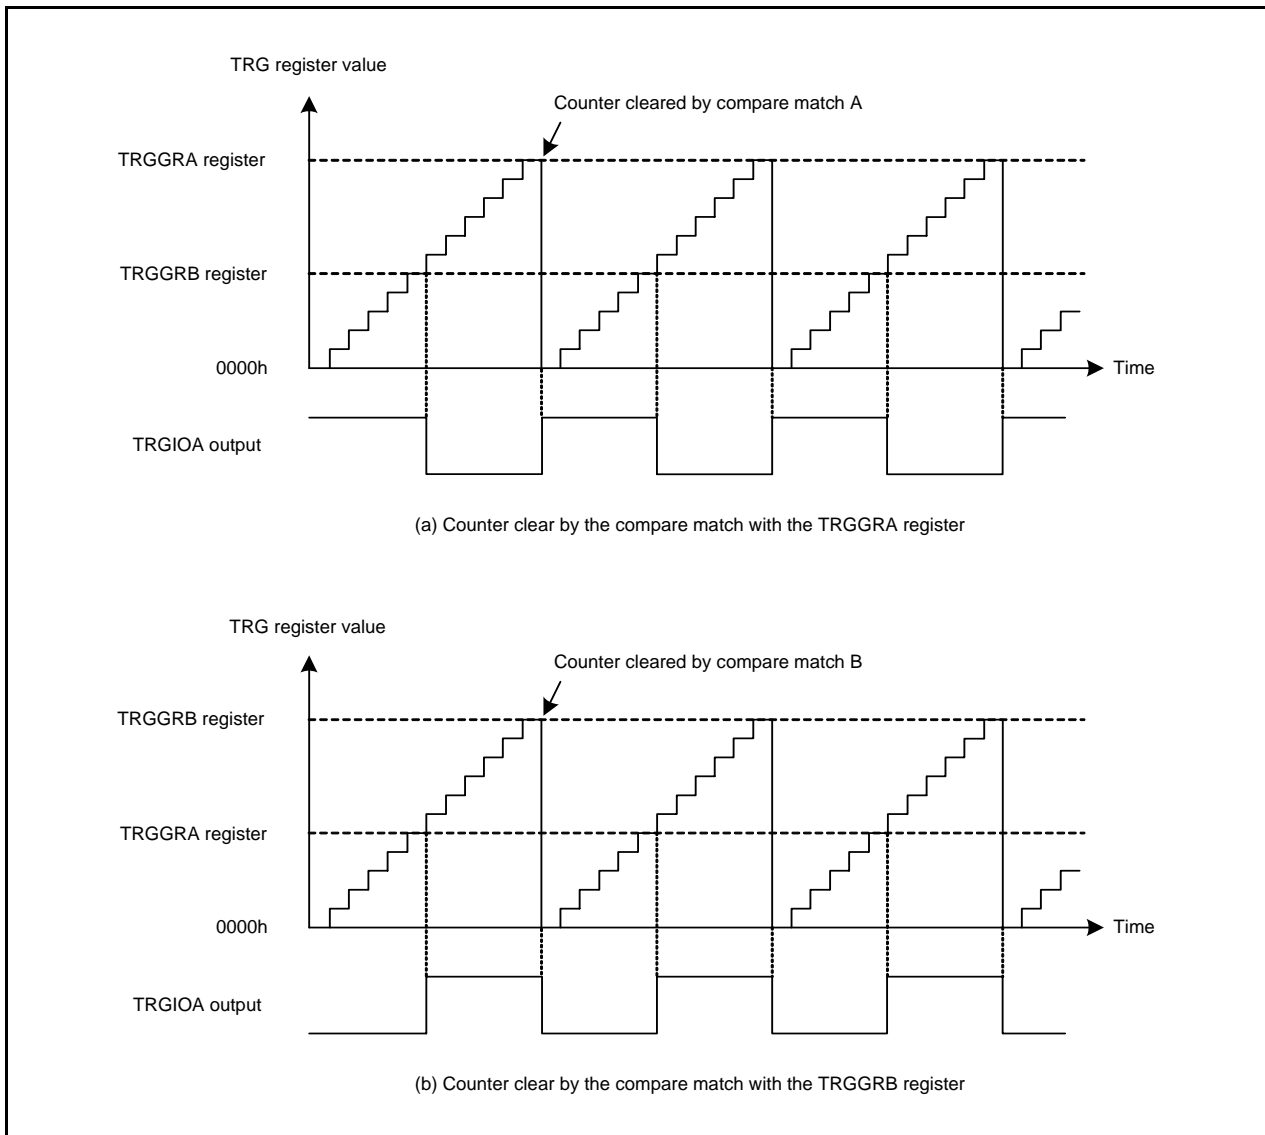

Figure 23.14 Operating Example in PWM Mode (1)
Figure 23.14 shows an Operating Example in PWM Mode (1).